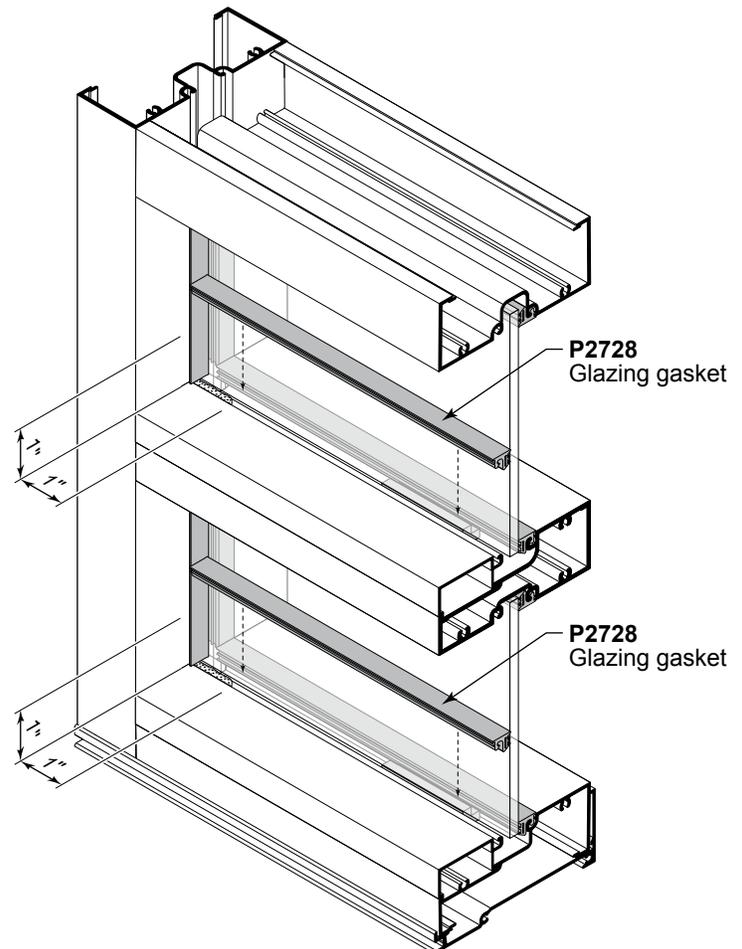

Fig. 38.2
- F. Install the exterior horizontal gaskets, at each end and work toward the center, firmly pushing the gasket in place, as show in **Fig. 38.2**.